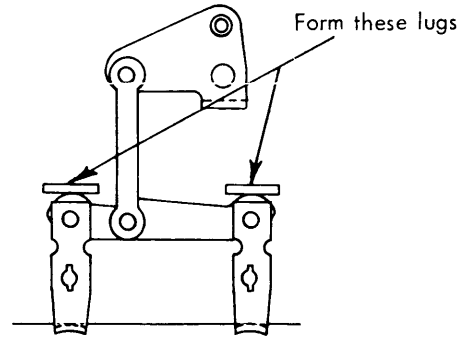
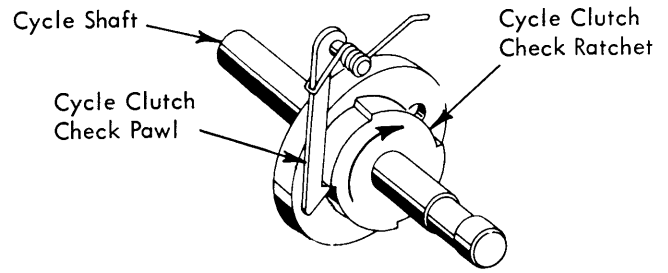

FIGURE 46. Selector Latch Stop Lugs
FIGURE 47. Latches Reset As Check Pawl Drops In
2. Tilt Selector Latches - Form the two stop lugs (Figure 46) above the tilt selector latches so that the latches will reset simultaneously (under the latch bail) just as the cycle clutch check pawl drops into the notch on the check ratchet at the rest position (Fig. 47).